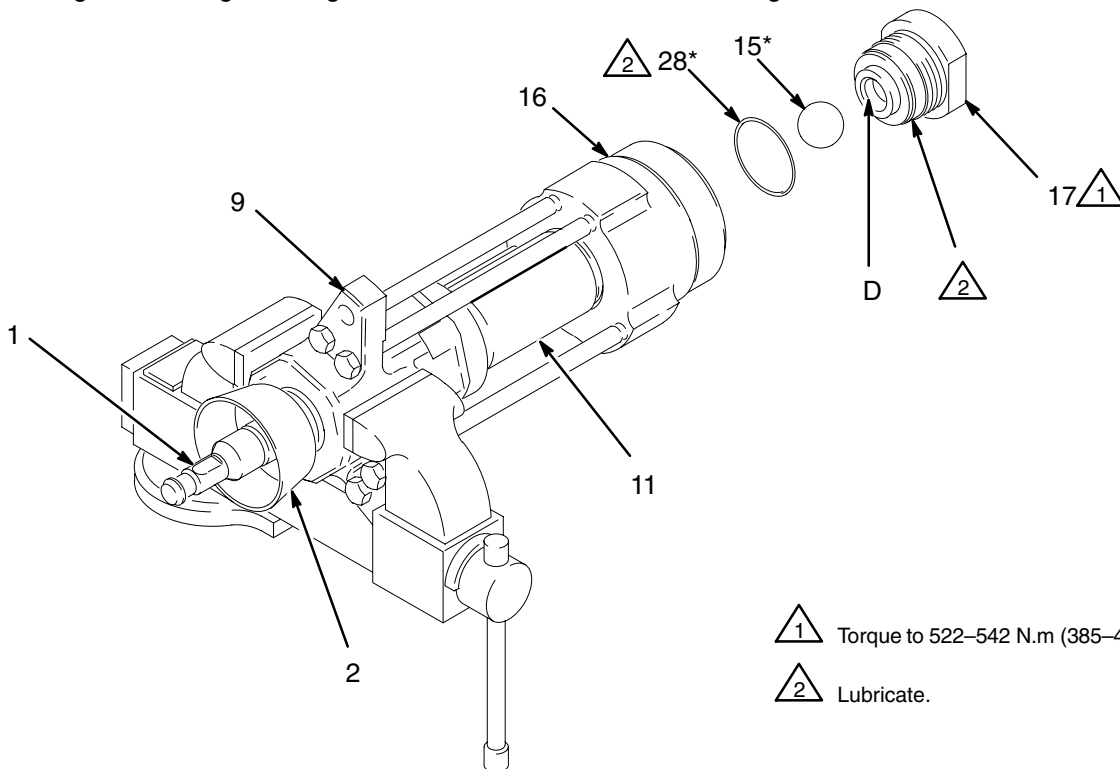

Fig. 5
1. Place the pump lengthwise in a large vise, with the jaws on the outlet housing (9) as shown in Fig. 5. Using the supplied wrench (104), loosen, but do not remove, the packing nut (2).
2. Using a pipe wrench, unscrew the intake valve (17) from the intake housing (16). Be careful to catch the intake ball (15) as you remove the intake valve, so that it doesn't fall and suffer damage. Remove the o-ring (28) from the intake valve. Inspect the ball and the seat (D) of the intake valve for wear or damage. See Fig. 5.
11. Place the pump lengthwise in the vise, with the jaws on the outlet housing (9) as shown in Fig. 5.
12. Install the o-ring (28*) on the intake valve (17). Lubricate the o-ring and the threads of the intake valve. Place the intake ball (15*) in the intake housing (16), then screw the intake valve into the intake housing handtight.
13. Using a pipe wrench, torque the intake valve (17) to 522–542 N.m (385–400 ft–lb). See Fig. 5.
14. Torque the packing nut (2) to 129–142 N.m (95–105 ft–lb).